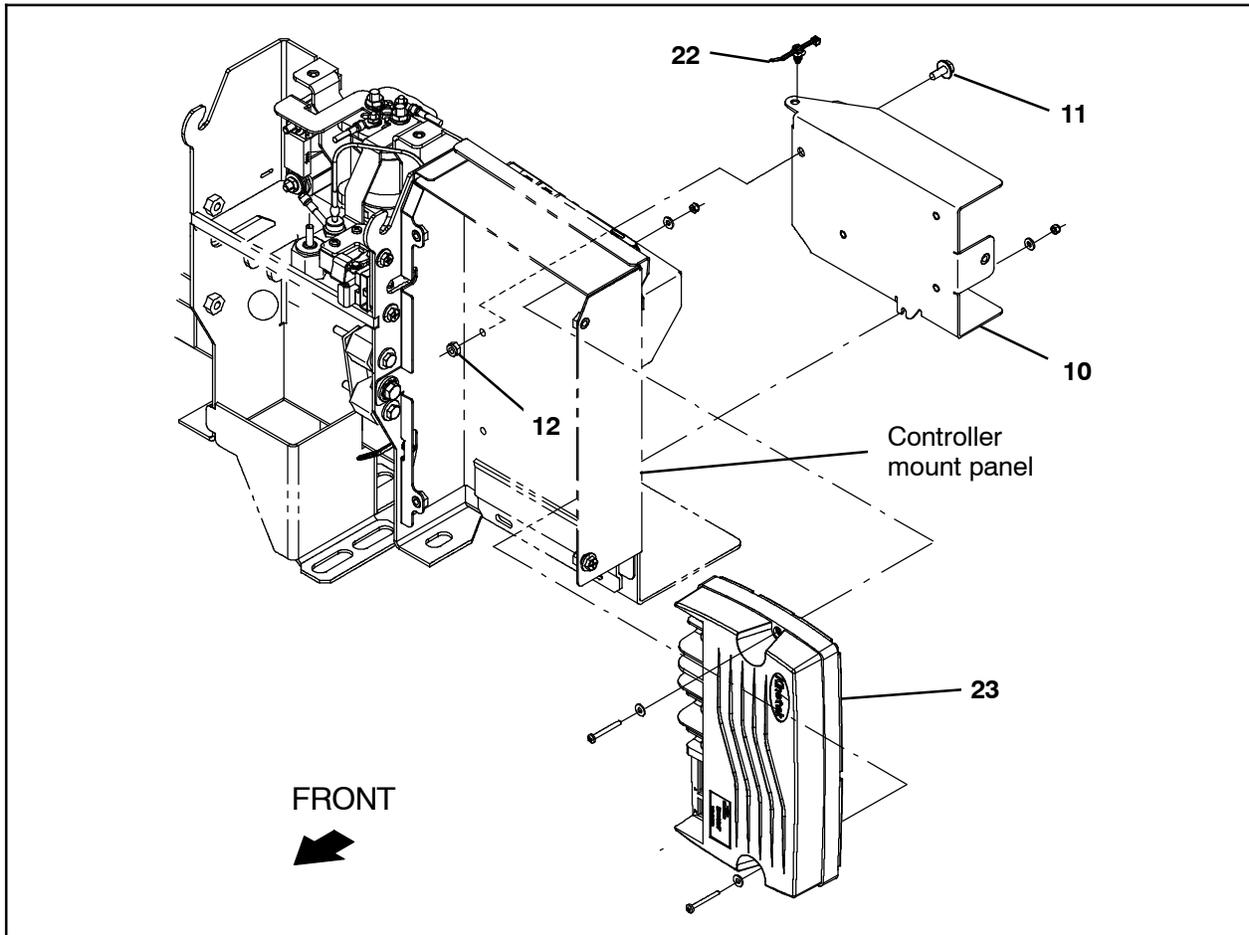

FIG. 21
11. Use one SEMS M6 hex screw (11) and a M6 hex nut (12) to install the communication board (13)/board mounting plate (10) onto the controller mount panel. (Fig. 21)
12. Install the Kinetek controller (23) onto the controller mount panel. (Fig. 21)
17. Use a cable tie (22) to secure the UI to BMS electrical harness (19) to the board mounting bracket (10). (Fig. 27/Fig. 21)